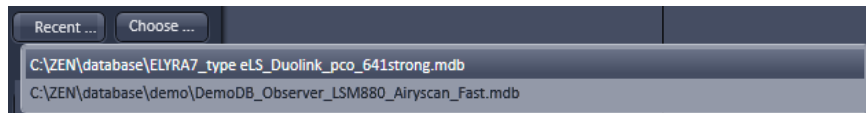

Fig. 14 Recent databases
- If **Recent...** is pressed the last couple of databases that were in use will be displayed (Fig. 14). Click on the one you want to select. By pressing the **Choose...** button Windows Explorer will open. Search for the folder file the database is stored and and open it. Select it for use. Select a database suited for your purpose from the Explorer window.